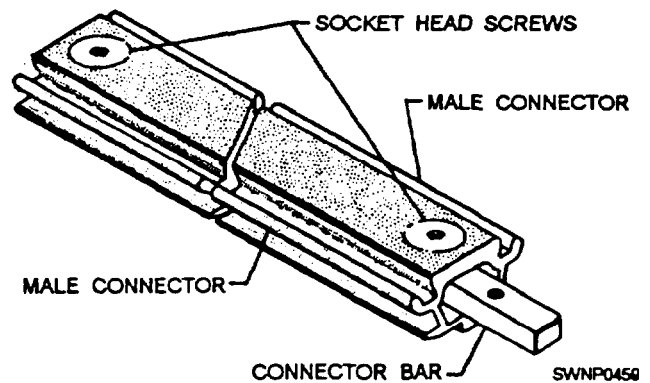

Figure 11-7.—Starter keylock.
**STARTER KEYLOCK.**— The starter keylock is a narrow mat that is used to decrease runway installation time by approximately one half (fig. 11-7). Previous mat installation methods required assembling the runway at one extremity and working to the other end. The starter keylock is installed in the middle of the runway only and enables two mat-laying teams to start together and work simultaneously toward each end of a runway section. Starter keylocks